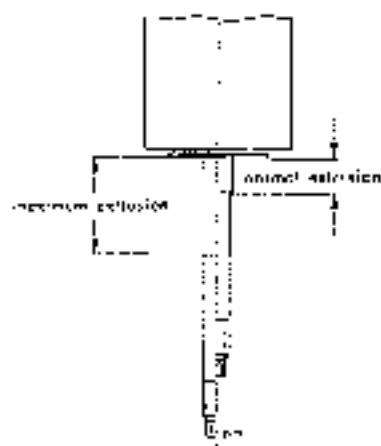

Fig. 32-1/4
4. If Bilstein shock absorbers lose oil, check the oil reserve. To do this depress the piston rod as far as the stop and measure the remaining length as far as the shoulder of the piston rod (Fig. 32-1/4). When this test is being made, the temperature of the shock absorber should be approx. ± 13 to $\pm 20^{\circ}$ C.